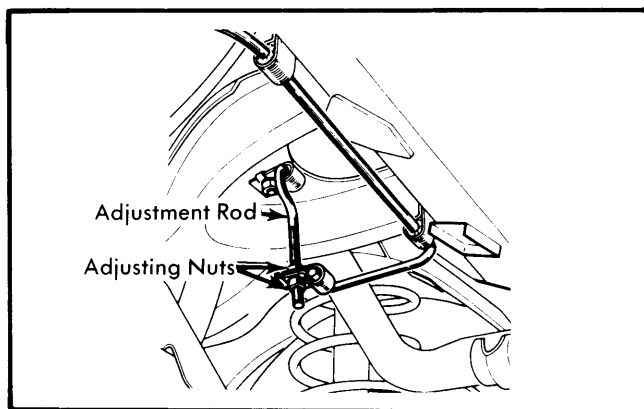

Fig. 1 Pressure Limiter Adjustment Points
2) On all models except R-5, rotate one of the nuts on adjustment rod (See Fig. 1). Rotating top nut upward will reduce pressure, while rotating the lower nut upward will increase pressure.